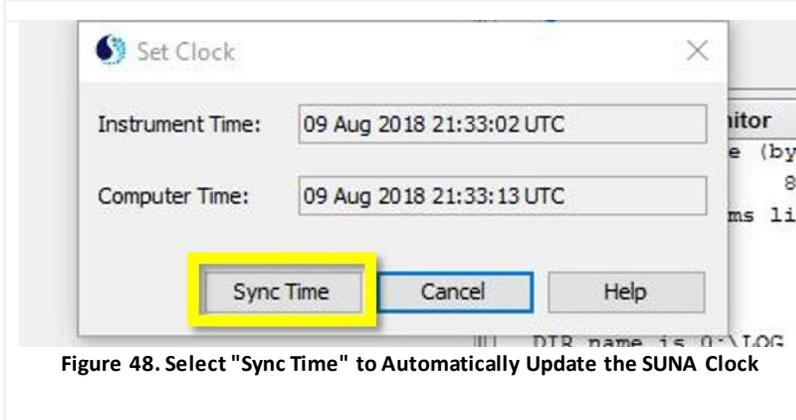

Figure 48. Select "Sync Time" to Automatically Update the SUNA Clock
**STEP 2 | A Set Clock window opens. Click on "Sync Time" (Figure 48).**